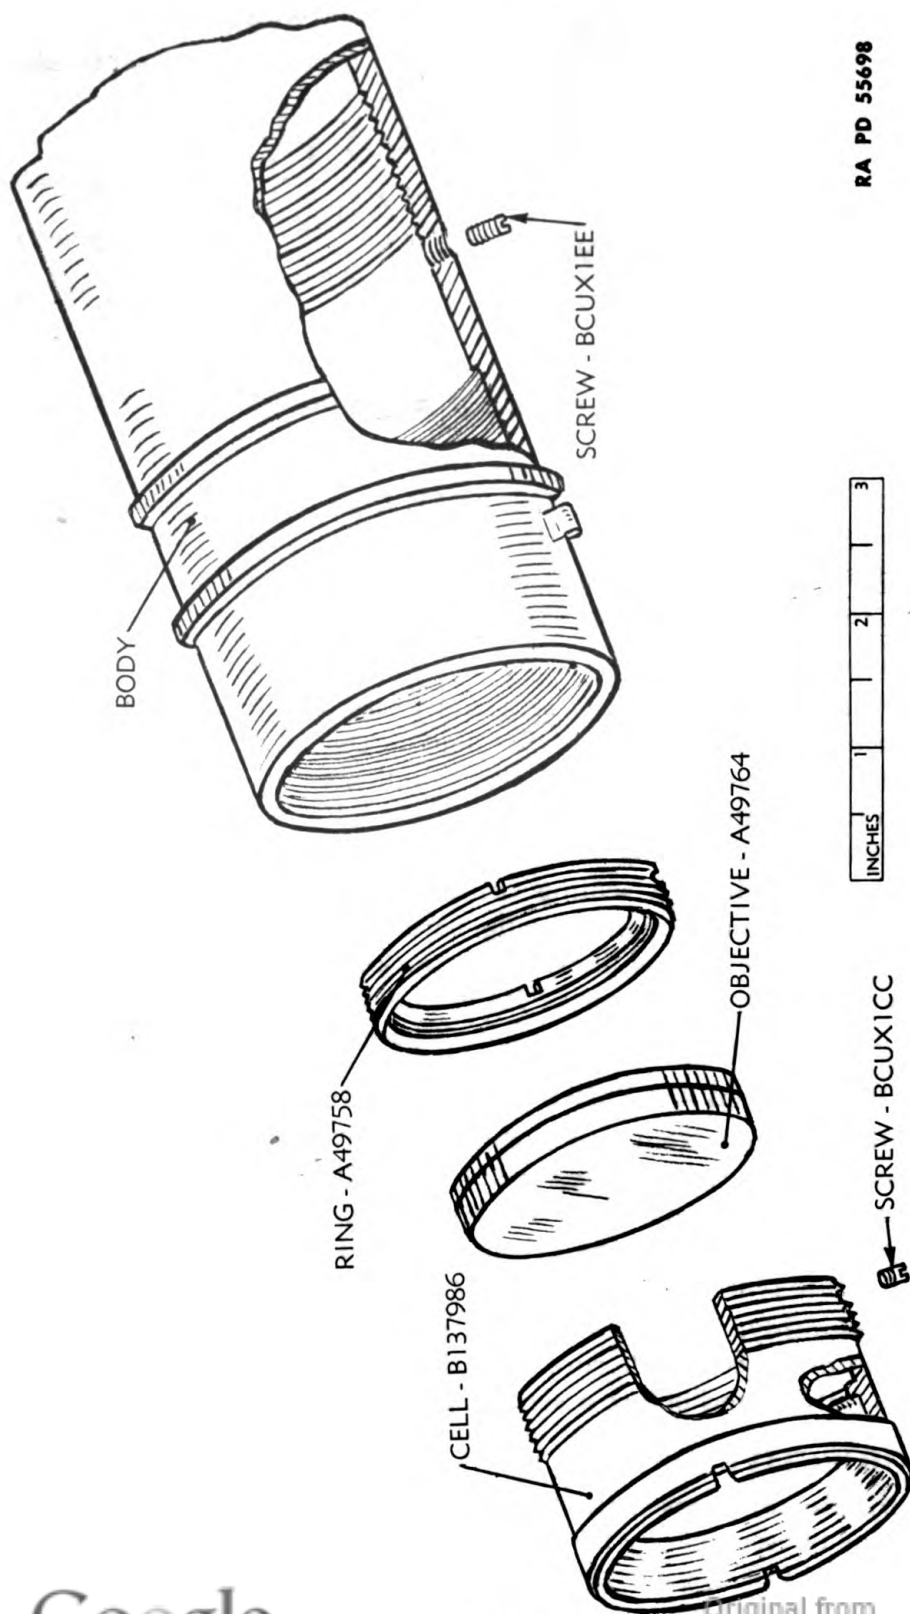

Figure 44—Objective Assembly—Exploded View
a. Removal. Loosen the headless screw BCUX1EE in the under side of the telescope body D29343 (fig. 44), and unscrew the objective assembly B137992, using a spanner wrench (2½ inch span). It may be necessary to exert some force in starting the objective assembly due
b. **Disassembly.** Unscrew the headless screw BCUX1CC in the objective cell B137986 (fig. 44). Unscrew the retaining ring A49758. Remove the objective from the cell. Mark the edge of the objective A49764 to insure correct positioning on assembly. Wrap the objective in clean PAPER, lens, tissue, and store in a safe place to prevent possible damage or breakage.
(1) Before assembling, remove all dust from the interior of the objective cell with the air bulb and see that the objective is clean. Replace the objective in its original position in the objective cell in accordance with the reference marks, making sure the objective is fully seated. Insert the retaining ring and draw up to firmness and secure with the headless screw BCUX1CC.
(2) Before assembling the objective assembly in the telescope body, clean away all old sealing cement from the objective cell and telescope body. Use the air bulb to remove all fine particles. Fill the external space around the objective cell with new CEMENT, sealing or plugging, and assemble in the telescope body. Adjust for parallax (par. 26) and when the adjustment is satisfactory tighten the headless locking screw BCUX1EE.